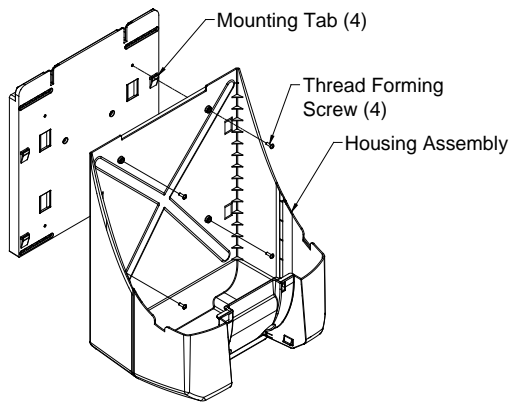

Figure 3
Step 2. Housing Assembly (Ref Figure 3)
- B. Secure Housing using Thread Forming Screw (4) provided. This step is optional.